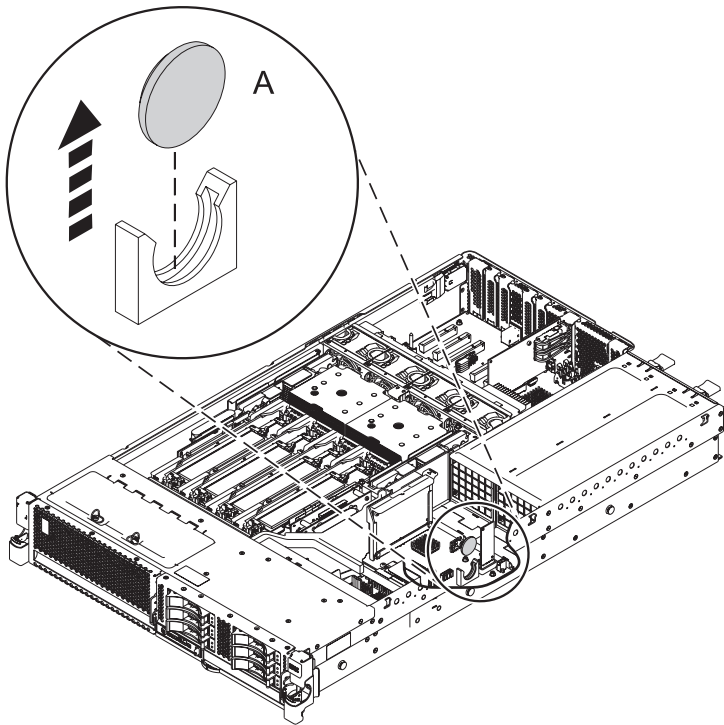

Figure 2. Removing the time-of-day battery
Attention: When removing the battery, do not use metallic tool to disengage it from its slot. Remove the time-of-day battery (A) from the system backplane, being careful to observe the polarity (+/-) of the battery. See Figure 2.